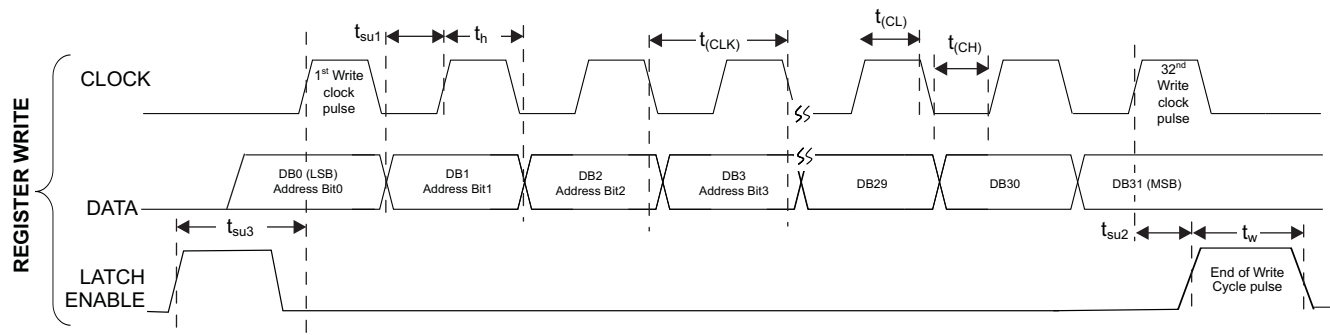

Figure 1. SPI Write Timing Diagram
(1) See Figure 1 for timing diagram.